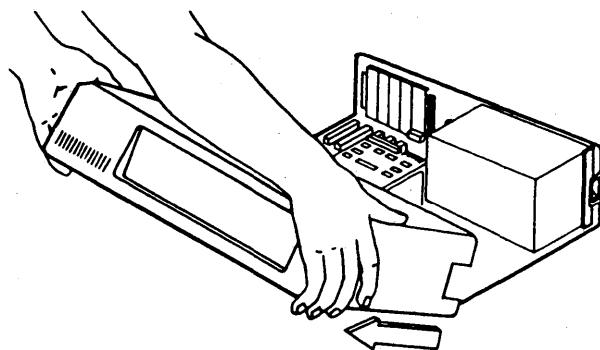

Figure 12: Removing the Cover
3. Grasp the cover in both hands and slide it forward and off as shown in Figure 12: